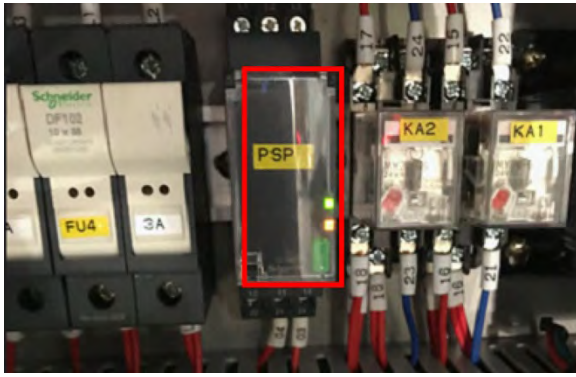

Figure 6-2: PSP Green and Orange Lights On
4. Note: The green and orange lights of the PSP must both be on (see Figure 6-2). If not, please interchange the L1 and L2 power cords.